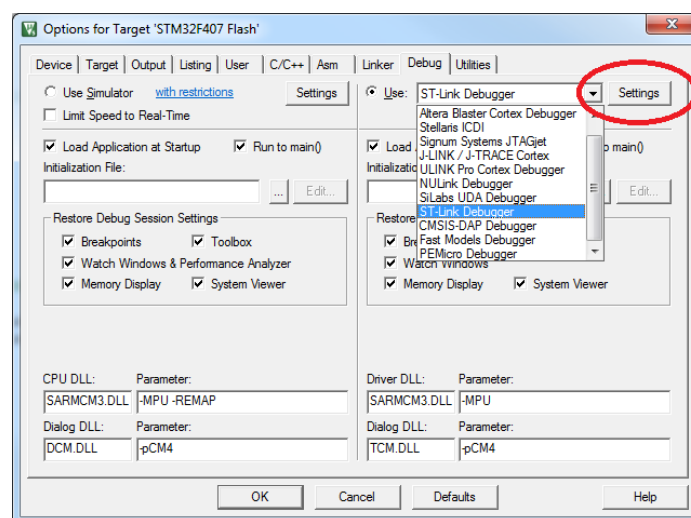

Figure 8b Debugger Selection Window
- Under the **Debug** tab select the ST-Link debugger from the list (Figure 8b) and then click **Settings**.